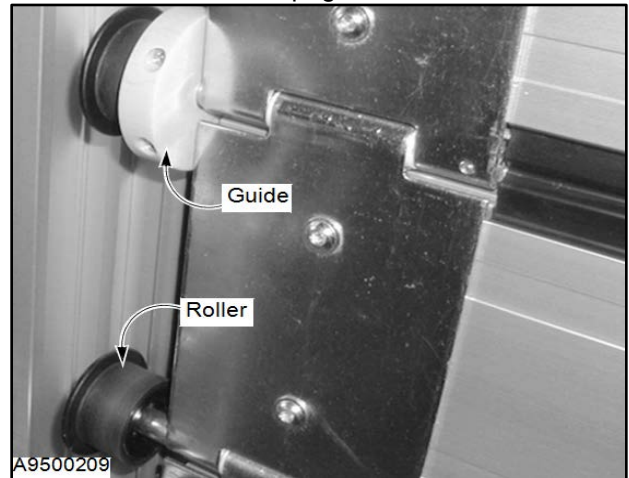

Figure 39
6. Inspect for damaged or worn rollers and guides. Replace as needed. (See Figure 39.)